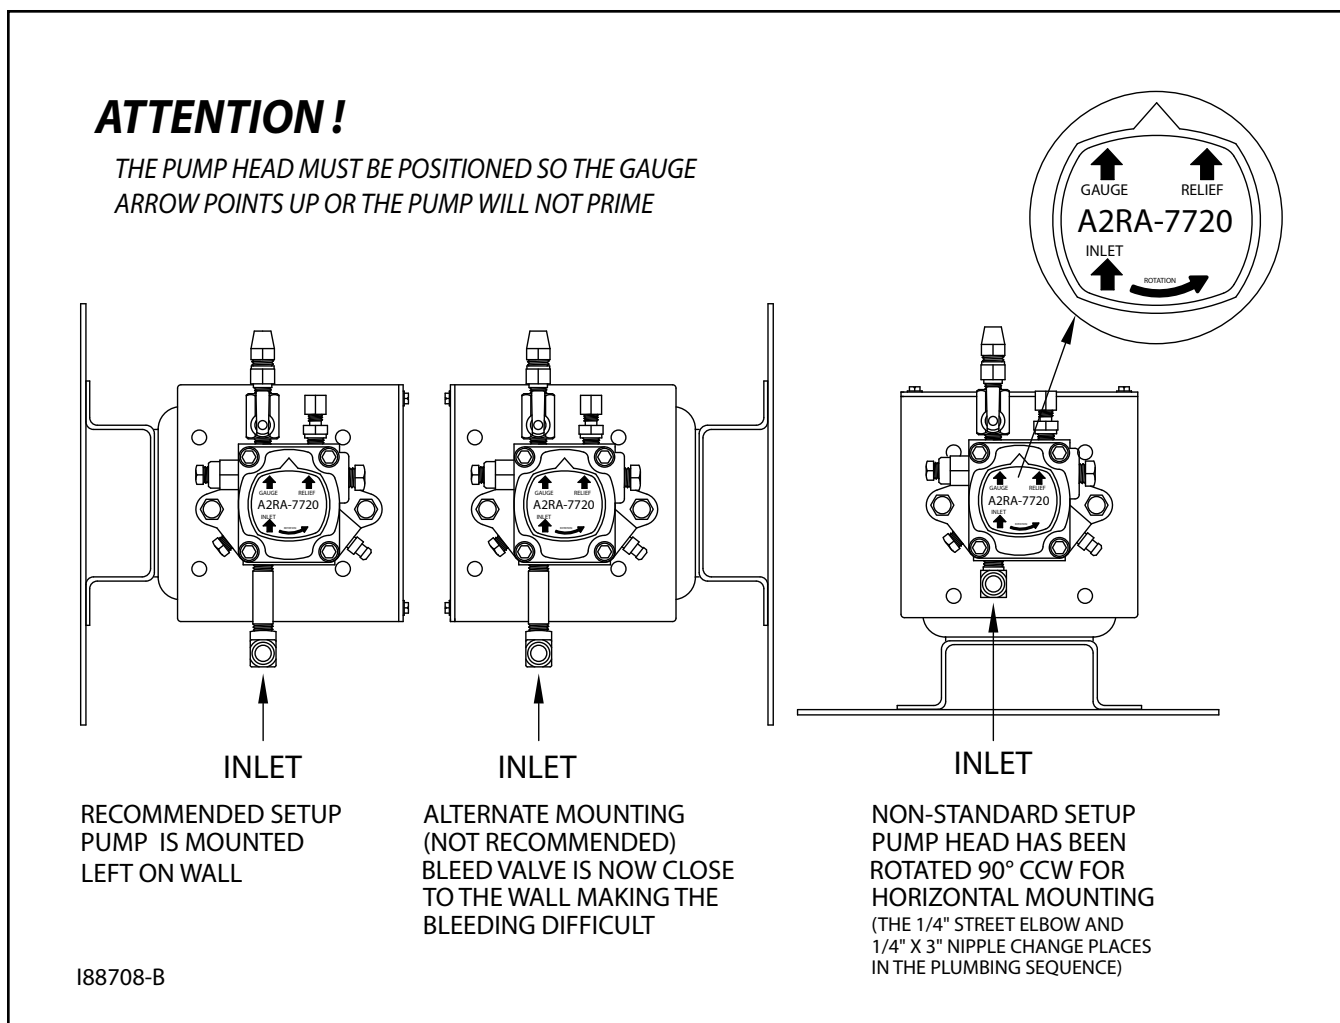

Figure 4G - Proper Positioning of Metering Pump Head
ATTENTION: If the metering pump is to be mounted horizontally or on a bracket as shown in Figure 4G, the pump head must be rotated counterclockwise so that it is aligned in a horizontal position. *The gauge arrow on the pump head must point up, or the pump will not prime.*
3. Rotate the pump head 180 degrees to the horizontal position as shown in Figure 4G.